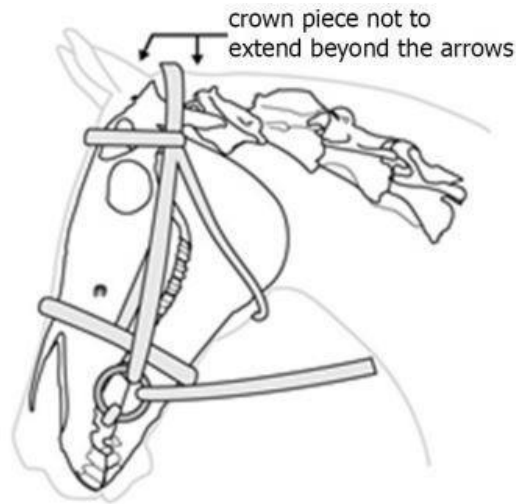

Figure 121.6: Position of crownpiece behind the poll. Arrows show the acceptable limits for the width of the crownpiece.
- a. Crownpiece. The crownpiece of the bridle must lie immediately behind the poll and may extend forward onto the poll, but it may not be fitted to lie on the vertebrae behind the skull (Figure 121.6). The crownpiece may be padded and it may have elastic inserts.